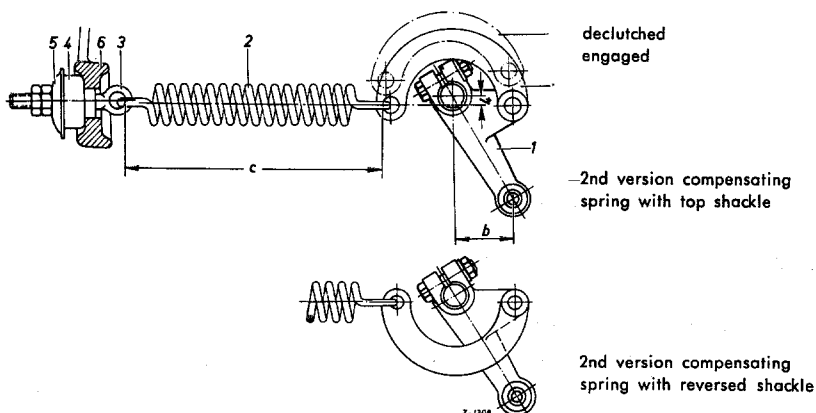

Fig. 29-1/4
pedal shaft is carried in a ball (3) in an end plate (2) attached to the transmission. The compensating spring (18) (dead center spring) which reduces the clutch pedal pressure on declutching is arranged on the right side of the clutch pedal in this version (Fig. 29-1/3).
The clutch pedal shaft is mounted in the same way as the 2nd version, except that the compensating spring (18 a) is attached on the right side to the relay lever and the clutch housing (Fig. 29-1/3).